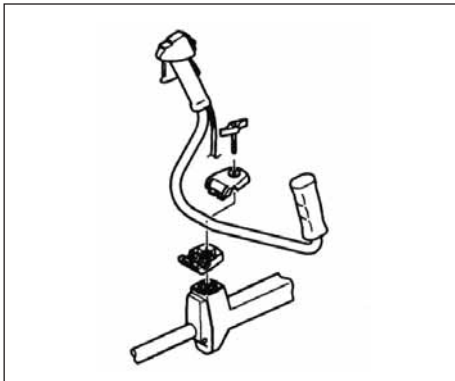

Fig. 1-2B
#### MERKNAD ang. CG47EY (T) (fig. 1-2B, 2C)